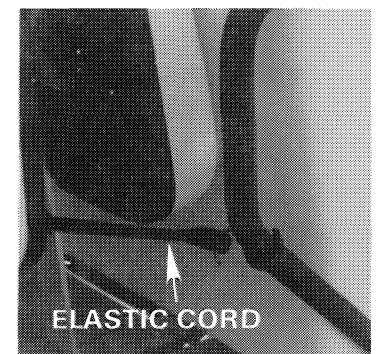

Figure 18
There is an enclosed storage compartment underneath the rear seat with two (2) cu. ft. of storage area. The rear seat can be lifted and fastened in place with the elastic cord to gain access to the storage compartment (Figure 18).